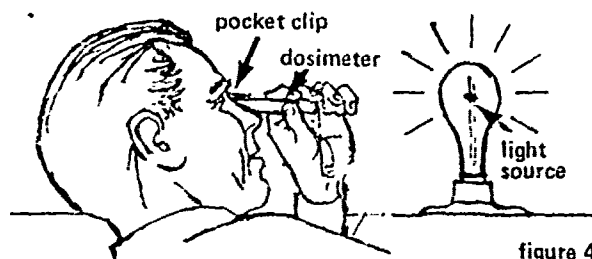
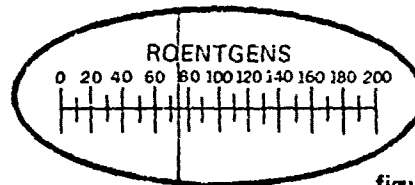

figure 4
figure 7
1. Point the dosimeter at a source of light (figure 4) —even a match, a candle or a flashlight will do— and observe the position of the hairline indicator. If the line is visible and positioned less than mid-scale, record reading. If the line is at or above mid-scale or not visible, the dosimeter must be rezeroed. To re-zero, a dosimeter charger is required.
6. To read dosimeter at any time -- point at source of light and observe setting by looking through dosimeter (figure 4). Reading of figure 7 is 75 Roentgens. Your accumulated exposure in Roentgens is this number less the initial reading you recorded.